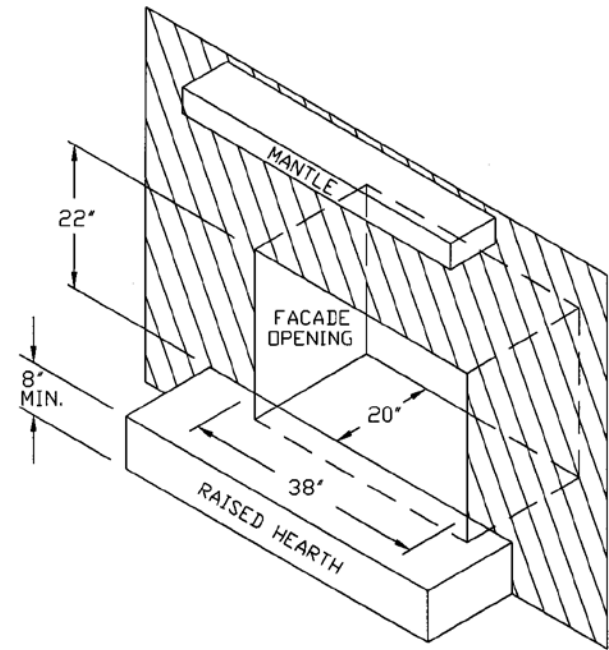

Figure 15
4. Attach flashing (refer to Figure 15), route power cord out the side nearest a 120V receptacle. Slide in insert.
6. Attach flashing (refer to Figure 15), route power cord out the side nearest a 120V receptacle. Slide in insert.
Figures 15 and 16 describe a Jackson installation vented into either a special chase built outside an outer wall or a false inside wall. This is especially suited for new construction or remodeling.